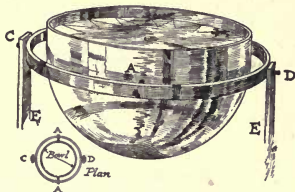

FIG. 184. A mariner's compass.
**The mariner's compass.** For use upon ships, one addition must be made to the common compass. In order that the needle may always be in a horizontal position and be free from jarring caused by the tramp of the sailors and the motion of the ship, the box is suspended in the gimbals, as is shown in Figure 184. The bowl is hung by two pivots (A) on the opposite sides of a brass ring (C, D) which surrounds it. The brass ring is itself balanced on two pivots on upright supports (E, E). It will be seen that whatever position the supports are in, the box maintains its upright position. Study Figure 184 and make sure that you understand why this is the case.